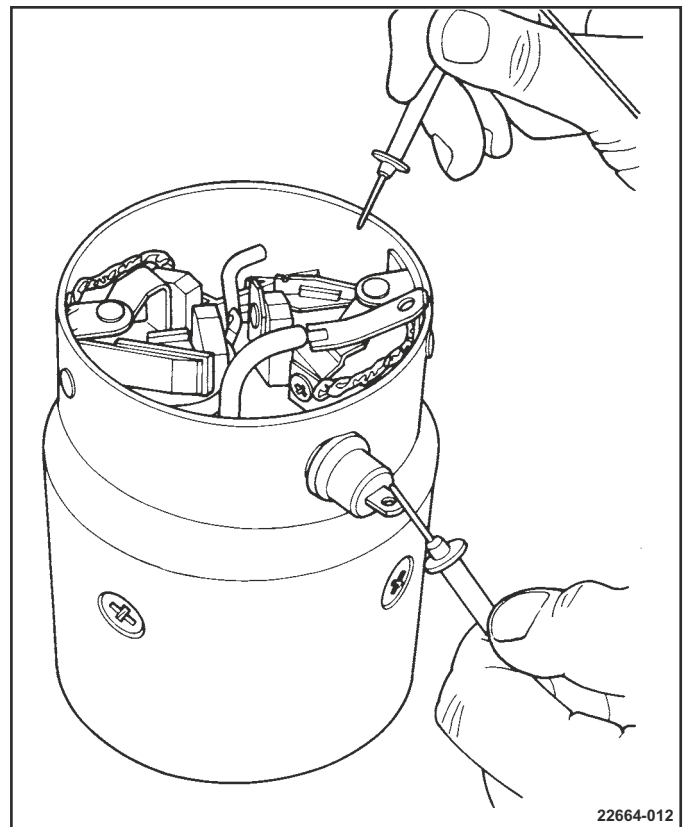

Figure 4-7 Testing Field Coil for Grounded Circuit
1. With continuity meter, place one lead on field connector bar and other lead on grounded brush (figure 4-7).